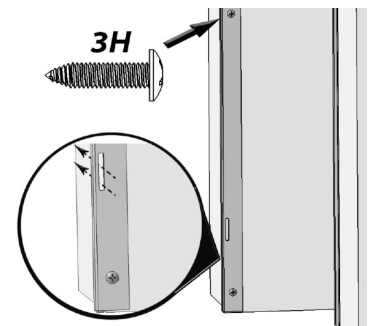

Fig. 19
19. Using eight 3H screws and a power drill, attach the two Side Trim Attachment brackets to the front left and right cabinet cut-out edges with the brackets touching the floor (Fig. 19). Ensure the rectangular slots extend over the cabinet edge.